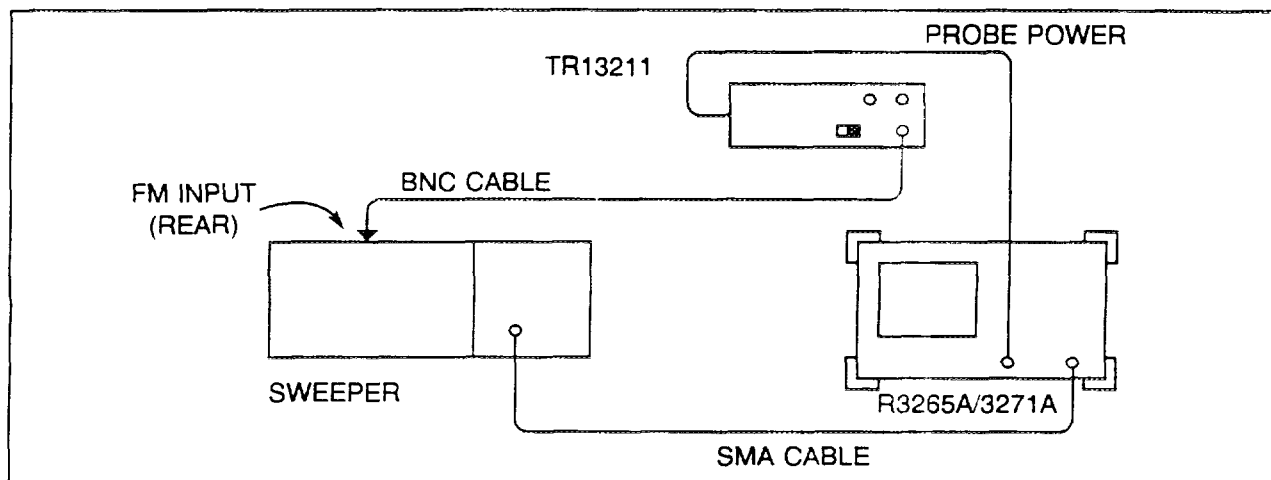

Figure 5-11 YTF Adjustment Setup
- (1) Connect the equipment as illustrated in Figure 5-11.
- (2) Press the **PRESET** key on the HP8350 and set the controls as follows: